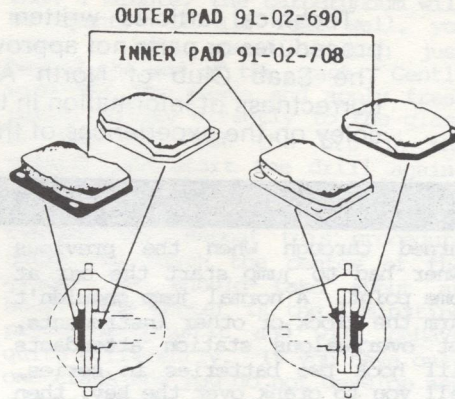

Figure 4. Pad inner/outer combination.
4. Turn in the pistons and install the semi-metallic 2-pad combination which was introduced into the spare parts system from 07/86. This is the same combination of pads installed from the beginning of M87 new car production. See Figure 4.